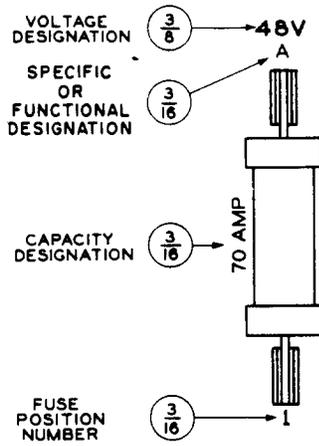

Fig. 17 - Cartridge-Type Fuse on Posts
1.05 Stampings shown on vertical center lines, as in Fig. 17, for equipment mounted either so high or so low that designations cannot easily be seen from the normal seeing position shall be moved to the left (if practicable, otherwise to the right) sufficiently for the designation to clear the center line of the equipment to insure good visibility. This shall not be followed where there would be possibility of confusing the designation with nearby apparatus, as in the case of closely mounted alarm fuses. Location of designations so close to apparatus that they are shielded by the apparatus when viewed from normal viewing position should be avoided. When stamping designations on the rear of power equipments with surface-type wiring, it is impracticable in some cases to prevent wiring from obscuring the designations.
2.31 For National Electrical Code cartridge-type fuses, see Fig. 17 through 21 and 25 through 27. The capacity of each fuse shall be stamped parallel to the fuse. The capacity designation shall contain the designation FN (for example, 10 AMP FN) if a multiple element (time delay) fuse is ← used. The FN may follow or be located below the AMP designation. Stamp group designations at the top, if possible, but if sufficient space is not available or reading would be difficult, they may be placed on the side or below the fuses. If fuses, other than SAFTOFUSE units, are associated with a circuit of more than 150 volts to ground, the voltage and class of service shall be stamped immediately above or below the fuses.